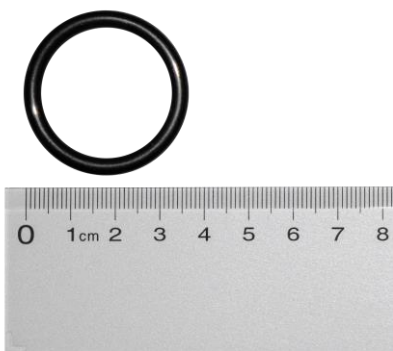

Fig. 10
- Replacing all O-rings. Fig. 10.